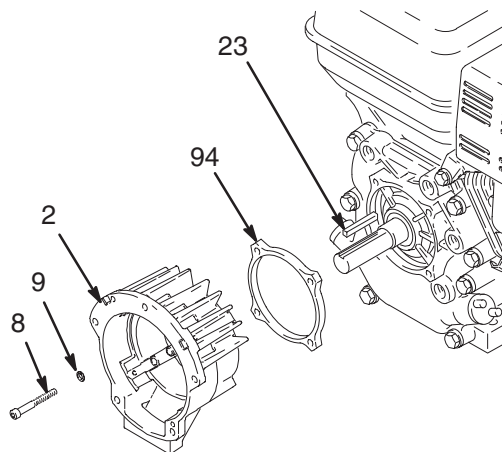

Fig. 19
**NOTE:** Refer to Fig. 19.
1. Remove the four capscrews (8) and lockwashers (9) which hold the clutch housing (2) to the engine.
2. Remove the engine key (23).
3. Pull off the clutch housing (2).